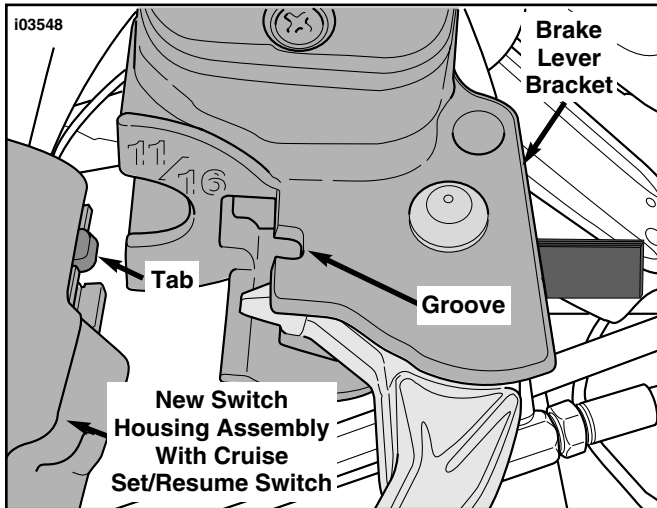

Figure 7. Installing Brake Lever/Master Cylinder Assembly to Right Switch Housing Assemblies
28. See Figure 7. Position the brake lever/master cylinder assembly inboard of the switch housing assembly engaging the tab on the lower switch housing in the groove at the top of the brake lever bracket.